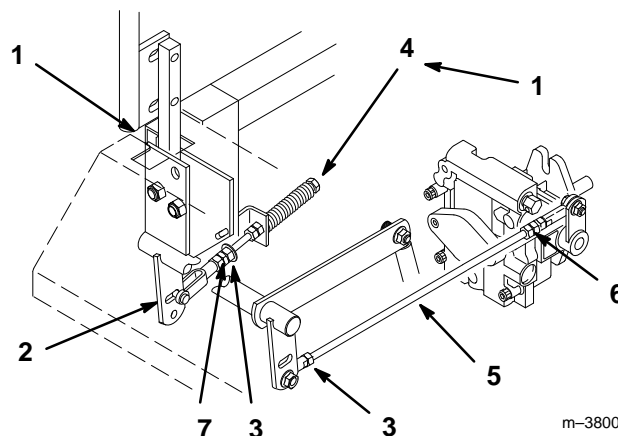

Figure 37
2. Begin with either the left or right motion control lever. Move lever to the neutral (but not locked) position and pull lever back until the clevis pin (on arm below pivot shaft) contacts the end of the slot (just beginning to put pressure on spring) (Fig. 37).
3. Check where lever is relative to notch in console (should be centered allowing lever to pivot outward to the neutral lock position) (Fig. 37).
11. Loosen locknut at ball joint on pump control rod (Fig. 37).
13. Adjust pump rod length by rotating double nuts on rod, in the appropriate direction, until wheel is still or slightly creeps in reverse (Fig. 37).